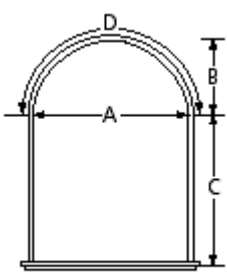

Fig. 2
When measuring an arched window (Fig. 2), (A) is the width, (B) is the radius (or "height") of the curved portion, and (D) is the circumference.